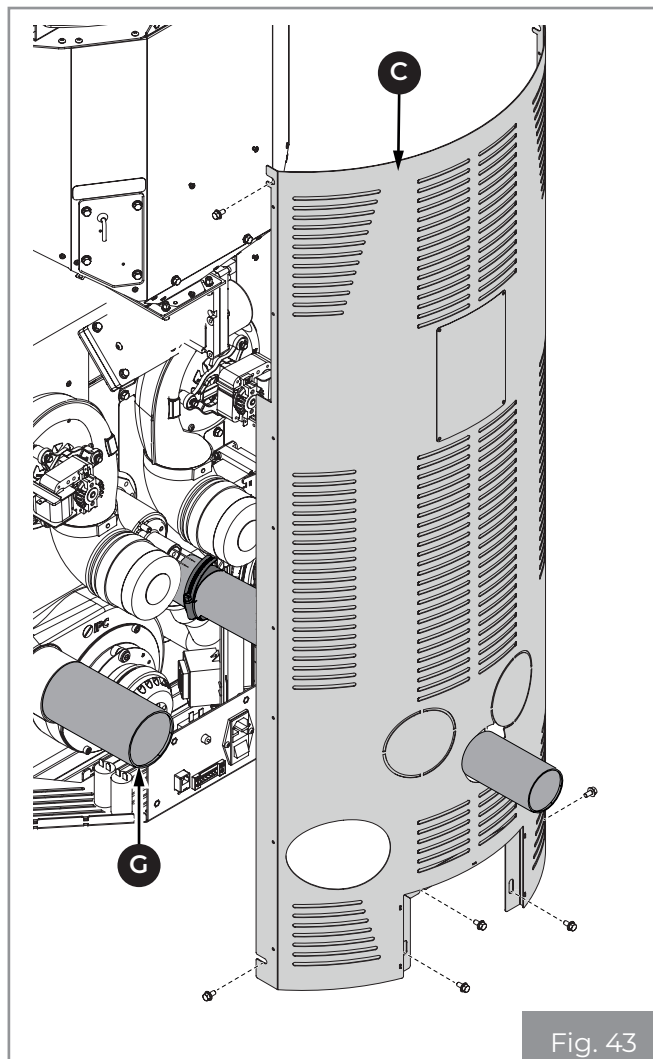

Fig. 43
- Connect the flue gas outlet pipe **(G)** (Fig. 43).